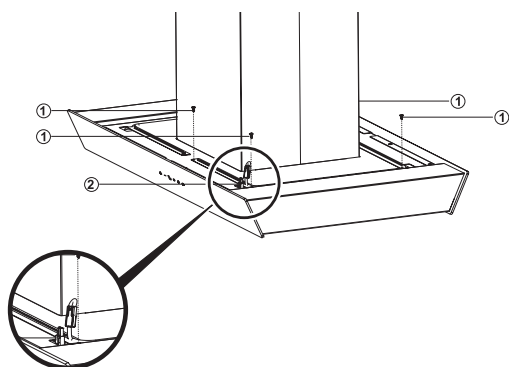

Figure 13
Remove the 4 fixing screws (1) of the lamp sheet to which the led lighting is connected. Remove the lamp holder (2). Figure 13